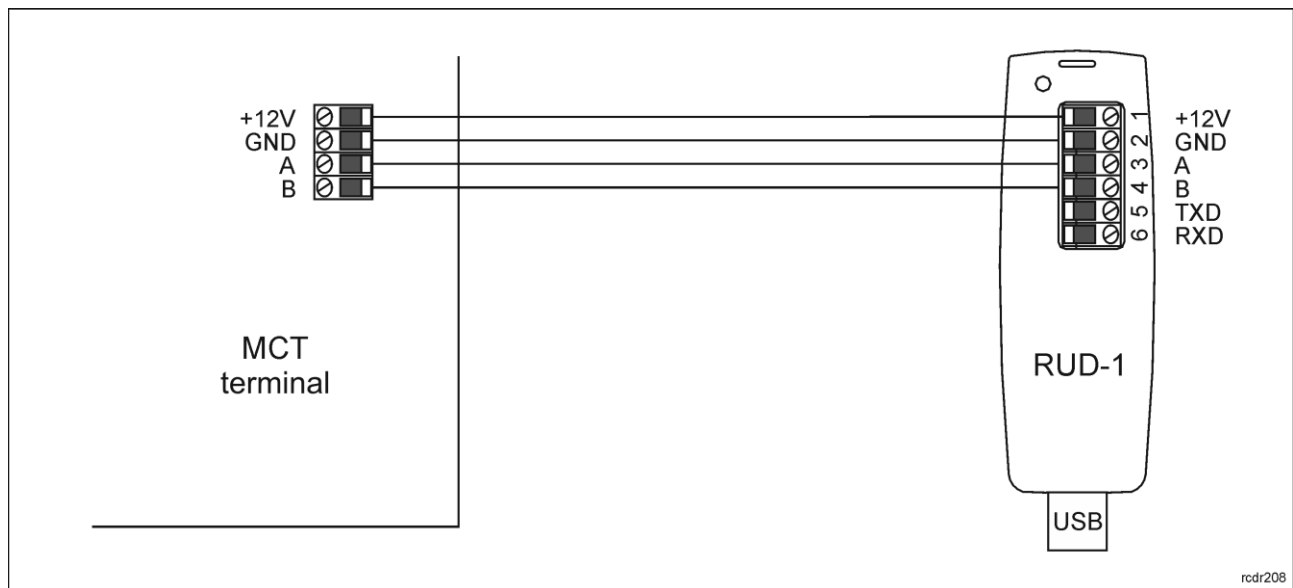

Fig. 7 Connection to RUD-1 interface (low level configuration)
1. Connect the device to RUD-1 interface (fig. 7) and connect the RUD-1 to computer's USB port.
1. Connect the reader to RUD-1 interface (fig. 7) and connect the RUD-1 to computer's USB port.